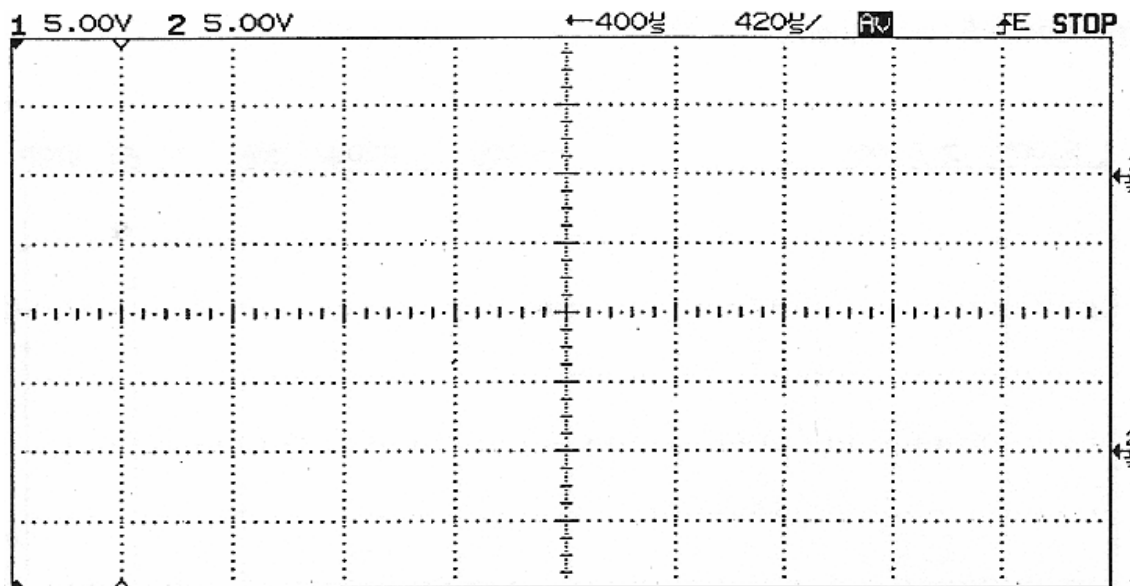

Figure: 6-4w Above: coder input signal (all bits 0)
- Switch the lower toggle switch on the coder to RZ. Set to a bit pattern of 00000000 and sketch the oscillograph on Fig. 6-4w. Here too the output signal may be inverted with respect to the one provided in the sample solution, see above.
- The violation bit also alternates of its own accord (see Figure 6-4w). This ensures that the entire HDB3 signal is also on average AC only just like an AMI signal.